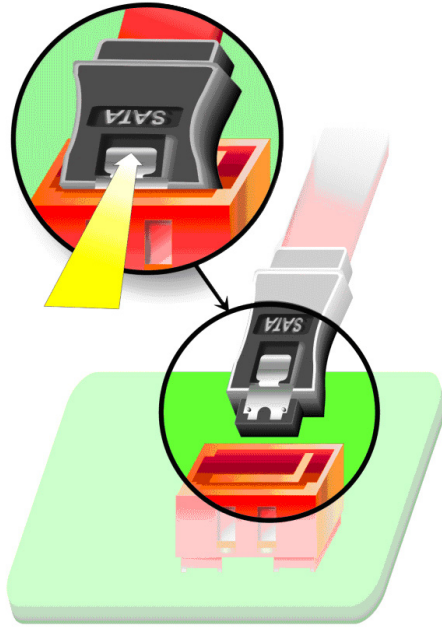

Figure 5-16: SATA Drive Cable Connection
Step 2: **Insert the cable connector.** Press the clip on the connector at the end of the SATA cable and insert the cable connector into the onboard SATA drive connector. See **Figure 5-16**.